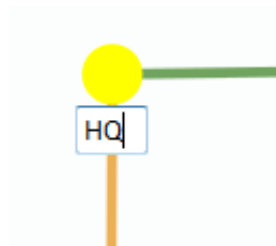

Figure 28 Custom Node Naming
- Custom Node Naming** – Naming each node in the network is as simple as double-clicking on the node name and typing in a new name as shown in **Figure 28**. This feature enables quick identification of nodes in the field and is especially useful in mission critical situations with many mobile assets. The user can click on the ‘Save Labels in Flash’ button in the left pane to store the node names to the radio’s flash memory. This will store the names on the radio even after the radio is powered off. The saved labels can also be cleared back to the defaults by clicking ‘Clear Labels in Flash’.